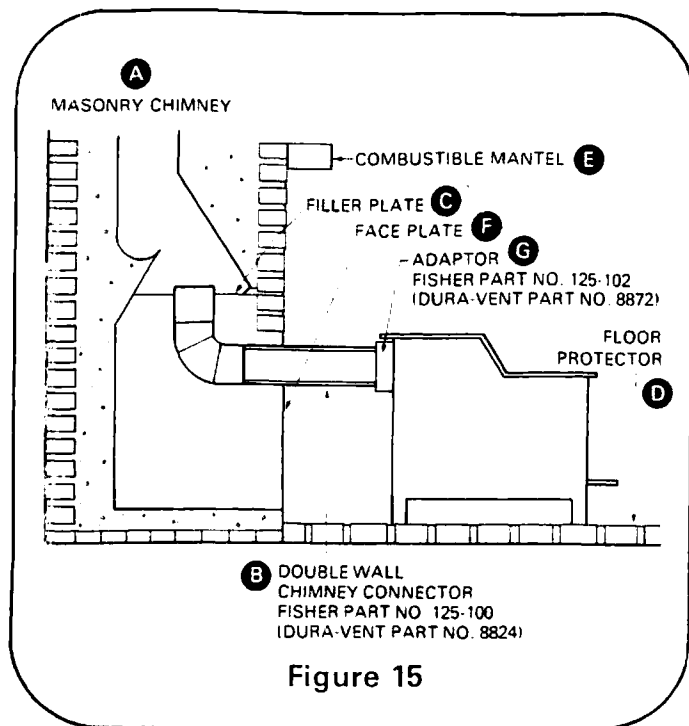

Figure 15
8. Secure the filler plate to the masonry walls using appropriate anchors and screws. Joints between the masonry fireplace and the filler plate must be sealed using furnace cement. (A cardboard template or pattern may be used to determine the actual size and shape of the filler plate.) (See Figure 15.)
9. Install the double wall chimney connector. (See Figure 15.)